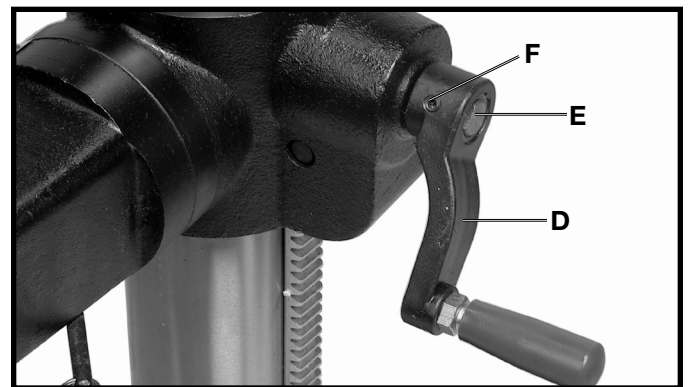

Fig. 7
7. Assemble table raising and lowering handle (D) Fig. 7, to worm gear shaft (E) and tighten screw (F) against flat on shaft with 3mm wrench supplied.